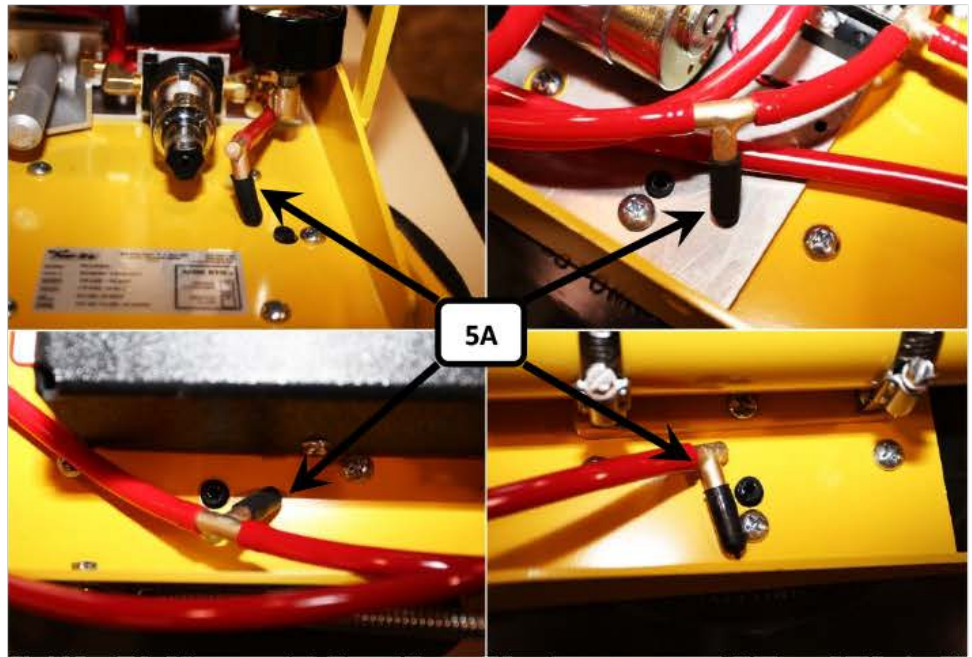

FIGURE 5
- 3) Cap all the pad fittings, to seal off the vacuum lines as shown in **FIGURE 5**.